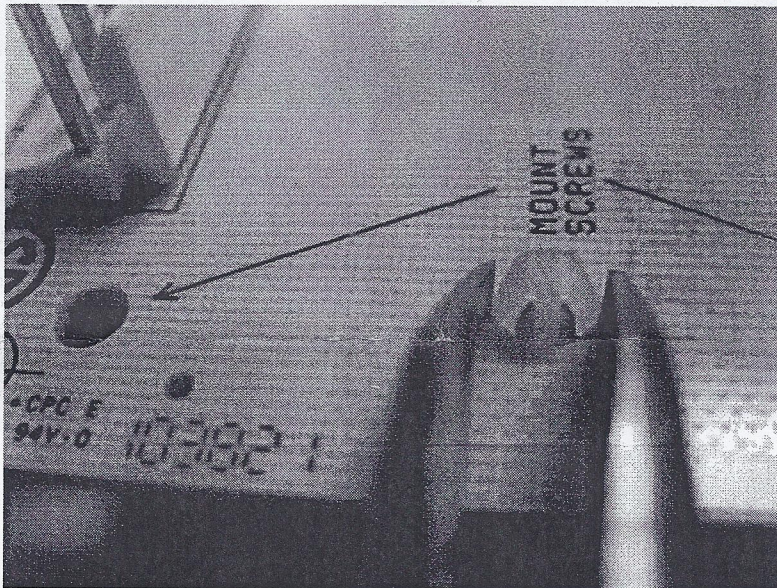

Fig. 9
1. Gently compress the stand-off locking tabs. See **Fig. 9.**